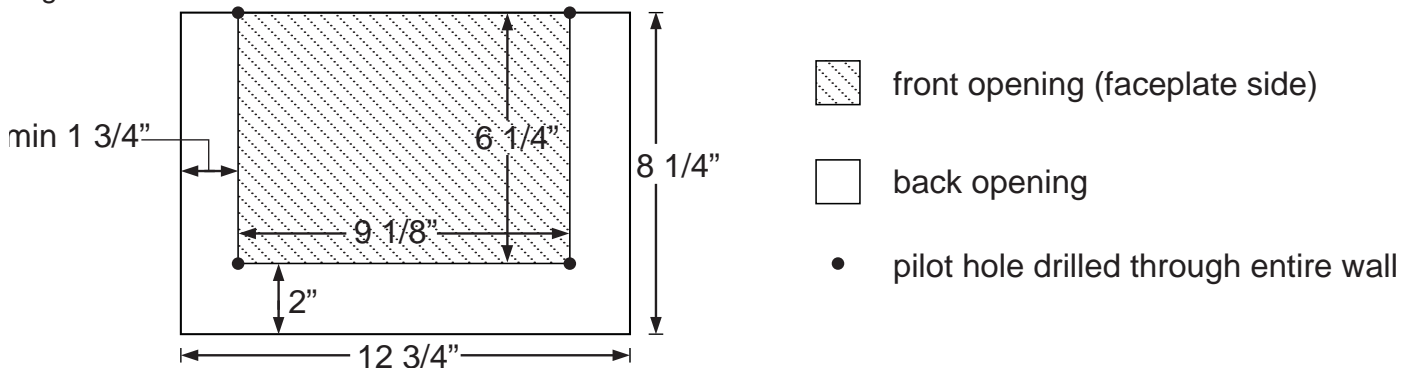

Fig. 14b
14.1 The fan distribution module must have a minimum clearance of 2 feet from the ceiling or adjacent walls and a minimum clearance of 3 feet in front of the faceplate. With these distances in mind measure a rectangle of 9 1/8" wide by 6 1/4" high. The rectangle needs to be level with respect to the floor. Drill a small pilot hole through each corner from the faceplate wall and through the other side of the wall. With a saw cut out the rectangle from corner to corner. Take care not to drill through or cut any electrical wires or plumbing. Please see figure 14b.